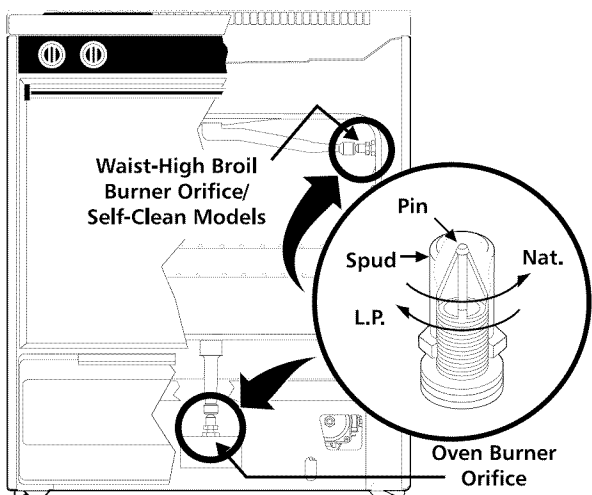

Fig. 8
- Locate the oven burner spud (See Fig. 8).
- Locate the broiler burner spud and turn down until snug against the LP/Propane metering pin (approximately 1 to 1-1/2 turns). Do not over tighten (See Fig. 8).